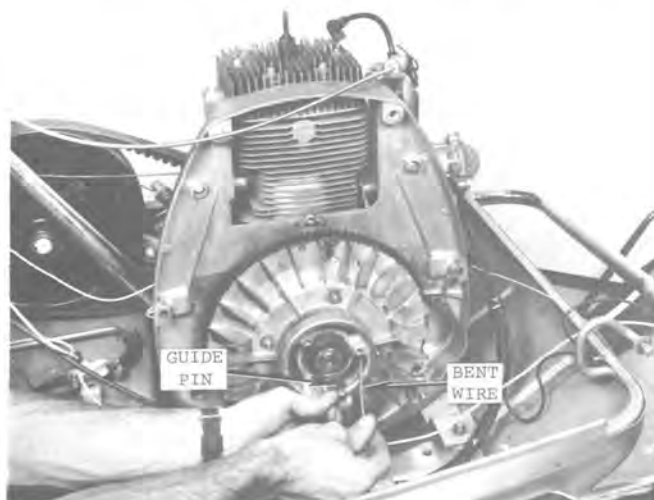

Fig. 40 — Inserting Guide Pin to Hold Centrifugal Weight During Ignition Timing
- c. Use a bent wire *carefully* inserted into flywheel hole to move the centrifugal weight until guide pin (special tool no. 444.31-666-00) can be inserted. See Fig. 40.